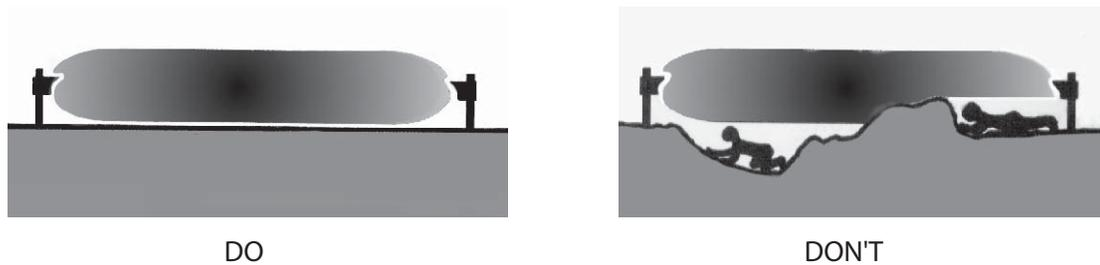

Figure 4. Terrain
2. Terrain Since operation of the link requires transmission of energy from Transmitter to Receiver, it is important to maintain a clear line of sight between the units; therefore, the ground must be flat across the protected area. Any bumps, hills or ditches must be filled so that the area is flat to within (6) inches (15cm). Refer to Figure 4.